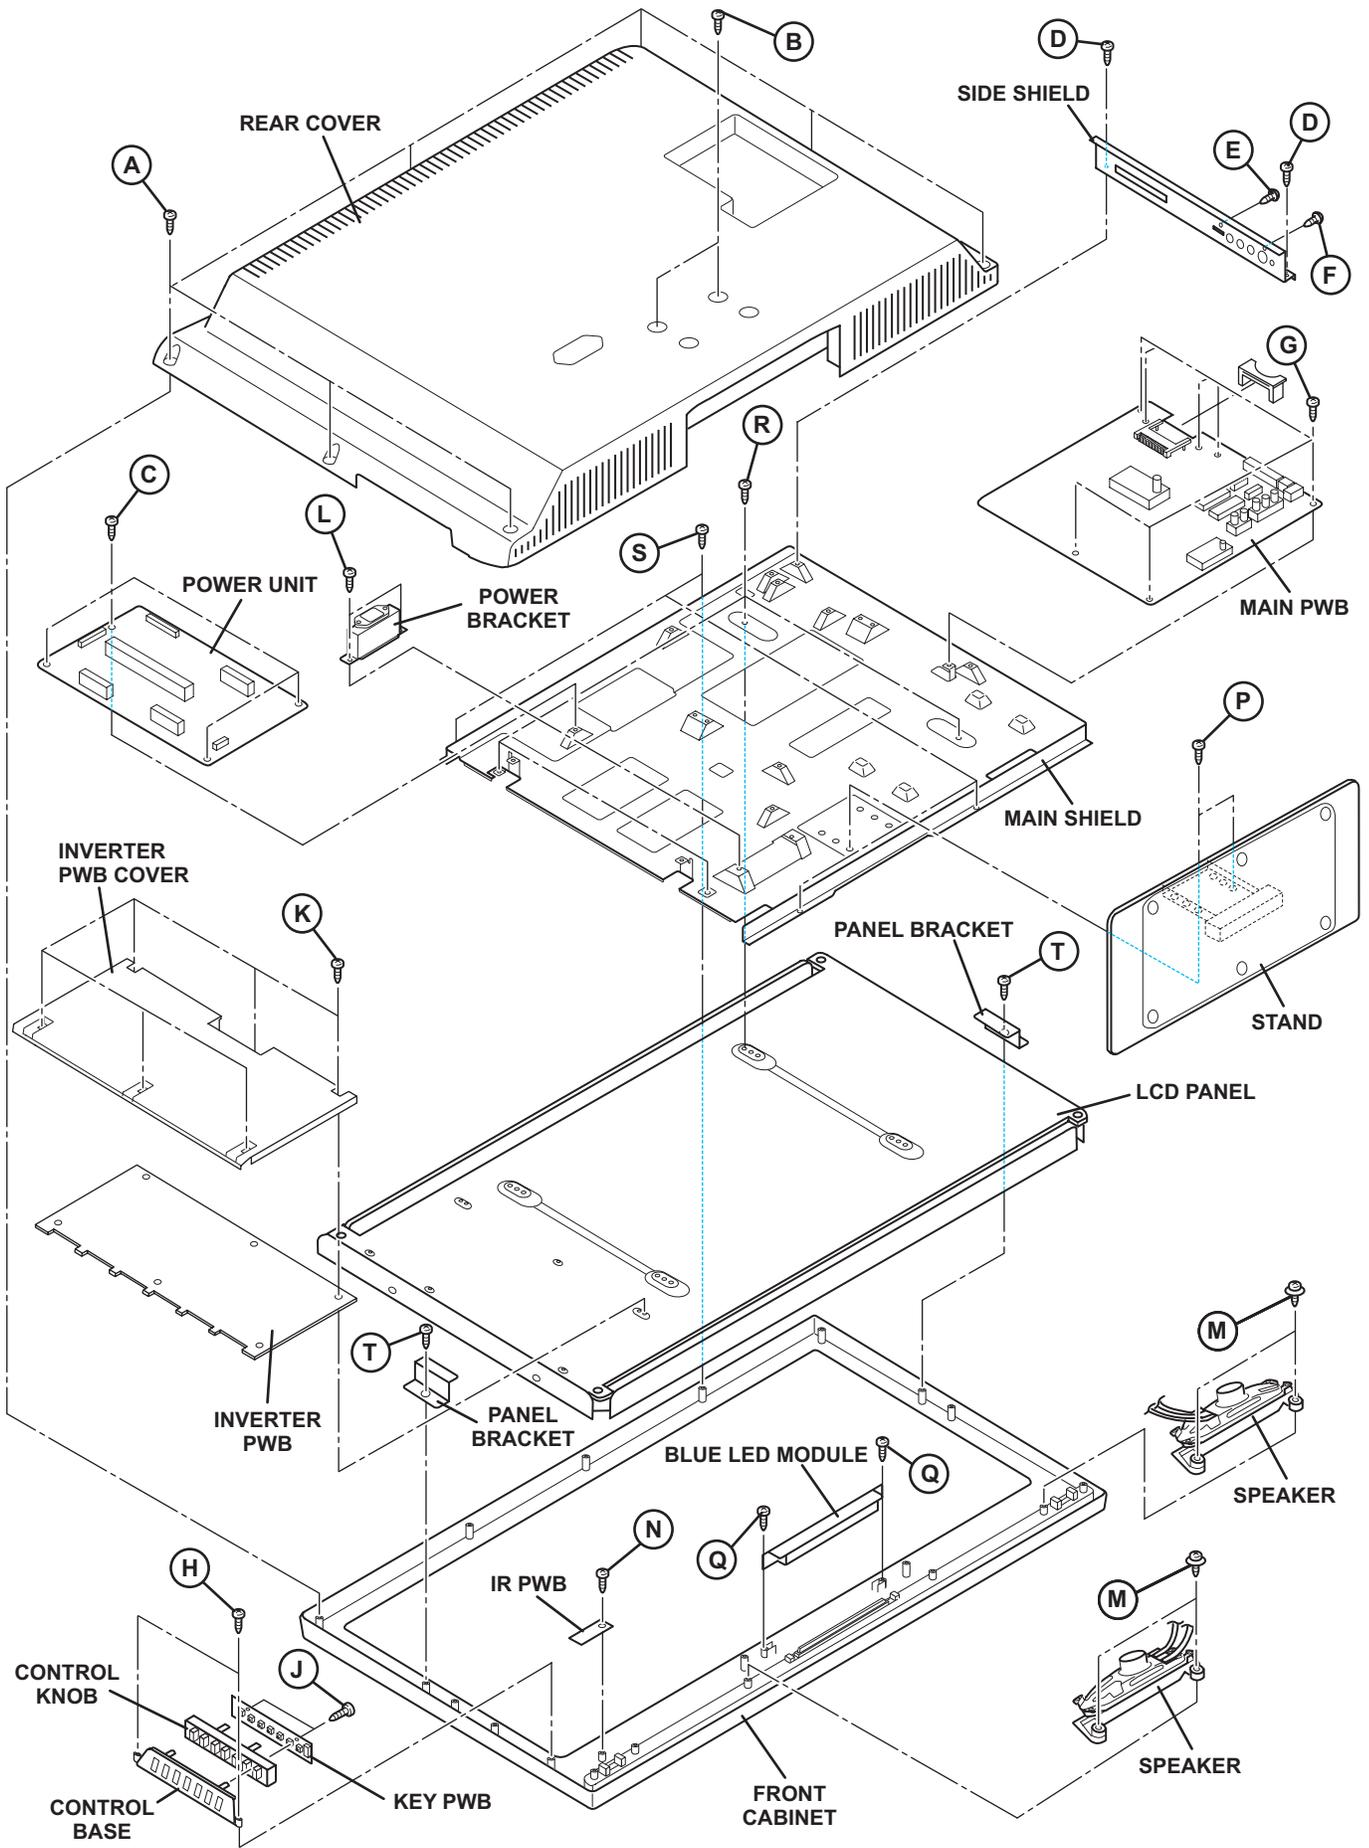

Fig.3-1
3.2.1 REMOVING THE REAR COVER (Fig.3-1)
- (1) Remove the 7 screws [A] and 2 screws [B].
- (2) Remove the REAR COVER.
3.2.2 REMOVING THE POWER UNIT (Fig.3-1)
- (1) Remove the 4 screws [C].
- (2) Remove the POWER UNIT.
3.2.3 REMOVING THE MAIN PWB (Fig.3-1)
3.2.4 REMOVING THE KEY PWB (Fig.3-1)
3.2.5 REMOVING THE INVERTER PWB (Fig.3-1)
3.2.6 REMOVING THE POWER BRACKET (Fig.3-1)
- (1) Remove the 2 screws [L].
- (2) Remove the POWER BRACKET.
3.2.7 REMOVING THE SPEAKER (Fig.3-1)
- (1) Remove the 4 screws [M].
- (2) Remove the SPEAKER(L/R).
3.2.8 REMOVING THE IR PWB (Fig.3-1)
- (1) Remove the 1 screw [N].
- (2) Remove the IR PWB.
3.2.9 REMOVING THE STAND (Fig.3-1)
- (1) Remove the 2 screws [P].
- (2) Remove the STAND.
3.2.10 REMOVING THE BLUE LED MODULE (Fig.3-1)
3.2.11 REMOVING THE LCD PANEL UNIT (Fig.3-1)